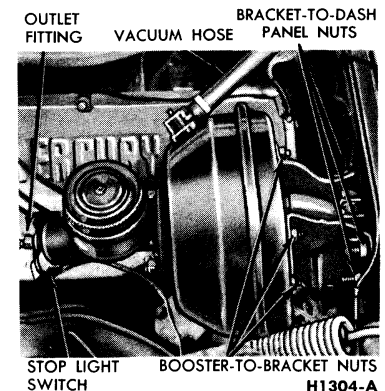

FIG. 14—Master Cylinder and Booster Installation
3. Remove the retaining nuts, lockwashers, and the master cylinder from the booster unit (Fig. 14).
2. Open the hood and disconnect the wires and retaining clip from the stop light switch at the brake master cylinder (Fig. 14).
5. Remove the four bracket-to-dash panel retaining nuts and washers (Fig. 14). Remove the booster and bracket assembly from the dash panel, sliding the push rod link out from the engine side of the dash panel.
1. Mount the booster and bracket assembly to the dash panel by sliding the bracket holes on the mounting studs and the push rod link in through the hole in the dash panel. Install the bracket-to-dash panel retaining nuts and washers (Fig. 14).